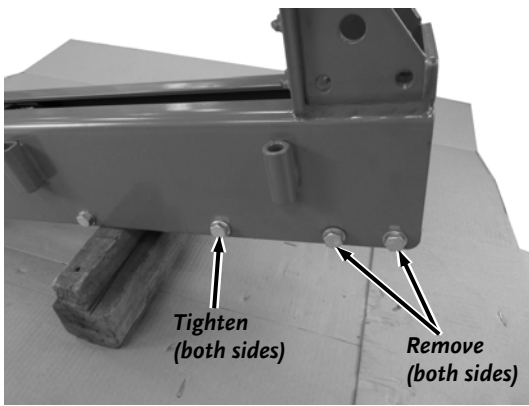

Figure 3
1. Block the rear end of the Beam Assembly up to gain access to the hardware and remove the first two sets on each side (**Figure 3**). Tighten the third set on each side using a 3/4" Wrench.